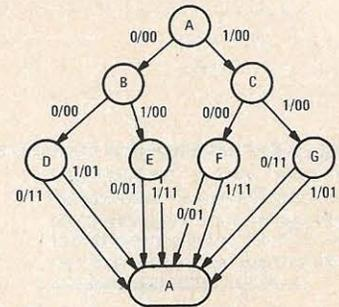

FIG. 26—STATE DIAGRAM for a circuit that derives odd parity for a 3-bit data word.
As another example, suppose we wished to design a circuit that would compute odd parity for a 3-bit data word, and set a flag when the parity bit was ready, after which it would compute parity on the next three bits, etc. Figure 26 shows the state diagram for the circuit. The first bit of the output is the parity bit, and the second is a flag indicating when the parity bit is ready to sample. The state table is shown in Fig. 27. Looking at the state table, we see that both states D and G advance to the same state (A) when $x = 0$ is input, and advance to the same state (A) when $x = 1$ is input. Also, the outputs of the two states are the same when $x = 0$ is input and when $x = 1$ is input.